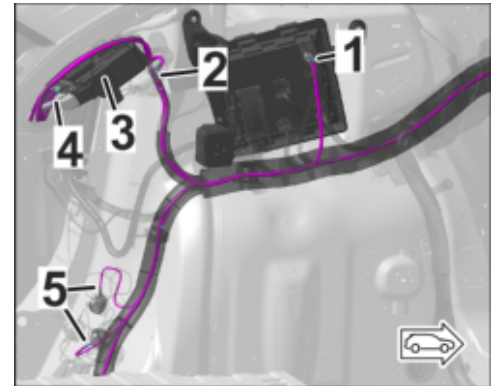

Figure 10
3.2.1 Pick up the CAN signal on plug A (⇒ *Figure 10 -1-*) from the rear-end electronics control unit (J393) at the rear left.
3.3.1 Fit rear left control unit holder. ⇒ *Figure 10 -3-*